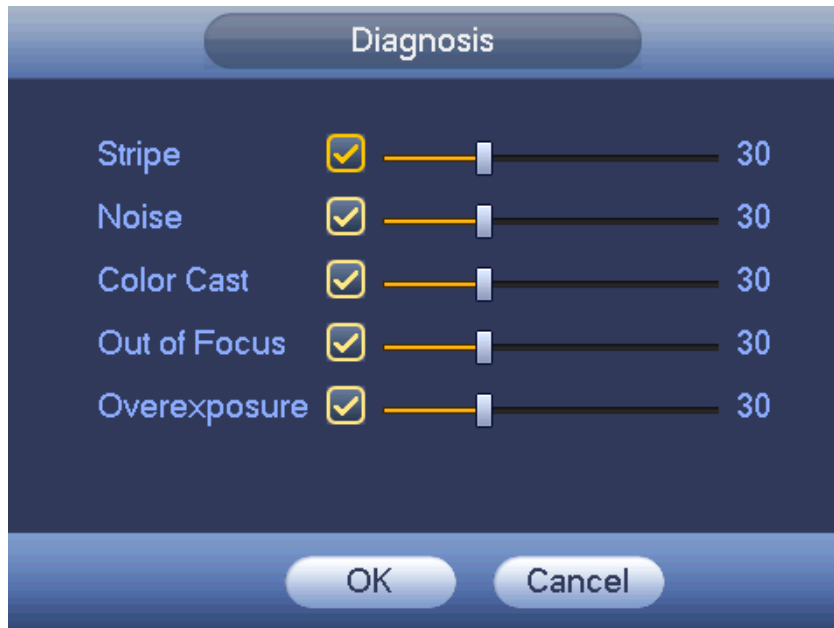

Figure 4-156
Step 3 Click the Rule Set button, or move the cursor to Set button and then click the Enter button on the front panel, the interface is shown as below. See Figure 4-156.